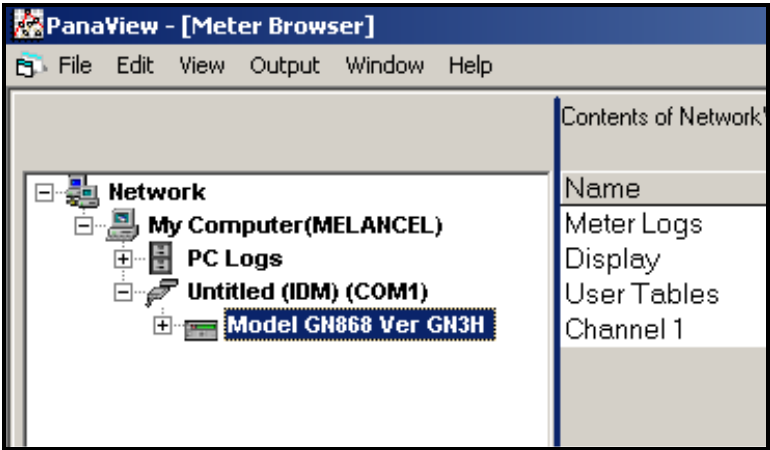

Figure 42: The Updated Network Tree
After the initialization has been completed, PanaView adds the new meter to the PanaView network tree and automatically closes the “Add New Meter” dialog box (see Figure 42).
**Note:** A GE GN868 flowmeter was used for this example, as is indicated in Figure 42. The information shown in the right pane in Figure 42 and the branches available under the “New Meter” branch in the left pane of the window will reflect the specific meter that was actually installed.